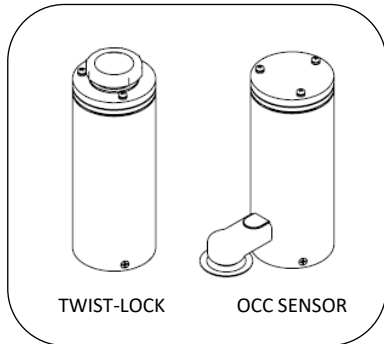

Fig. 3 - Optional driver tube assemblies
6. Connect wiring to terminal block. Reattach driver plate assembly to driver tube using hardware from step 1. Install photo-eye sensor into twist-lock receptacle, if applicable. See Fig. 3.